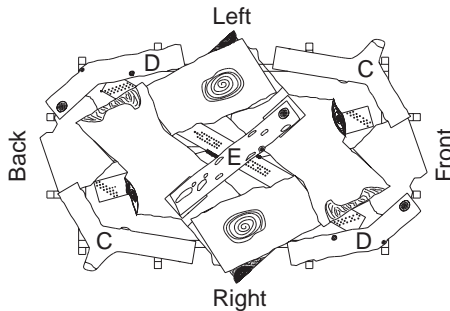

Figure 47 - Installing Twigs "C, D, E" (Top View)
10. Take twigs "C" (shaped like a "Y") and place them as shown in Figure 47, page 19.
11. Take twigs "D" (bent twig) and place them as shown in Figure 47, page 19.
12. Place twig "E" across the top of logs "B" as shown in Figure 47, page 19.
13. When finished installing the logs, close the glass doors while making certain that the safety door switch is fully depressed by the door frame before securing the four (4) spring loaded latches.